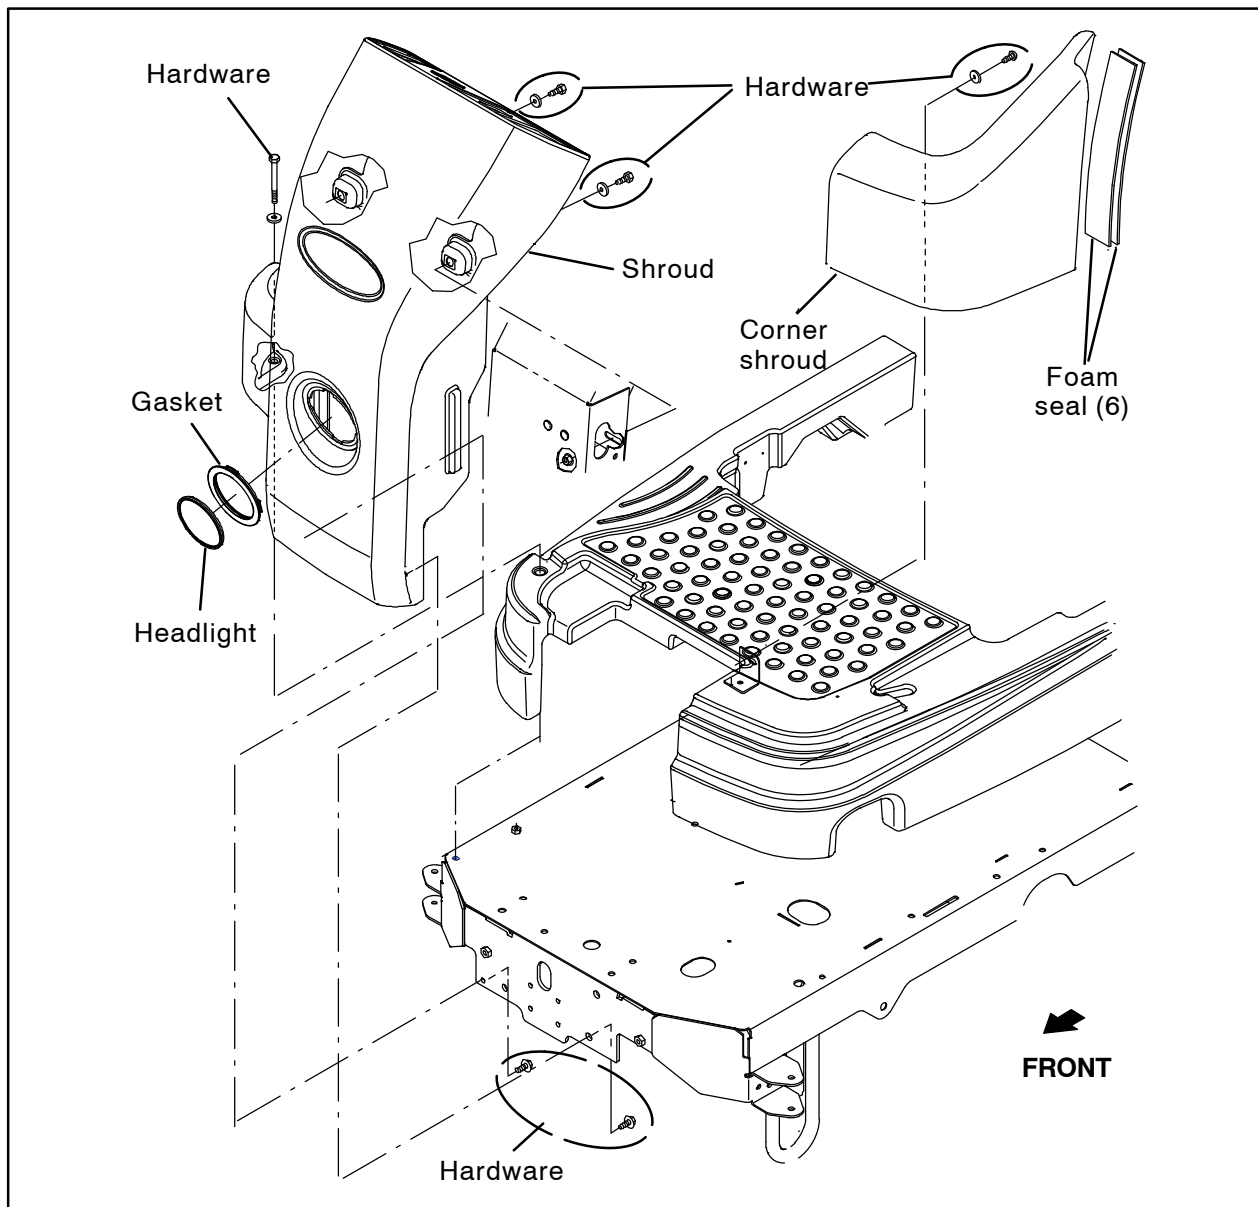

FIG. 67
38. Clean the foam seals from the corner shroud and solution tank. (Fig. 67)
39. Install the new foam seals (6) onto the corner shroud and solution tank where the old foam seals were located. (Fig. 67)
40. Reinstall the corner shroud. (Fig. 67)